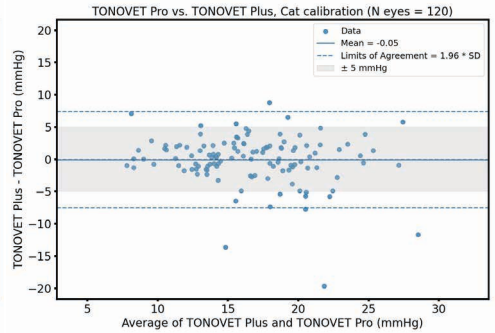

Figure 2. Cat calibration
- Figure 2 = Bland-Altman plot TONOVET Pro vs. TONOVET Plus cat calibration